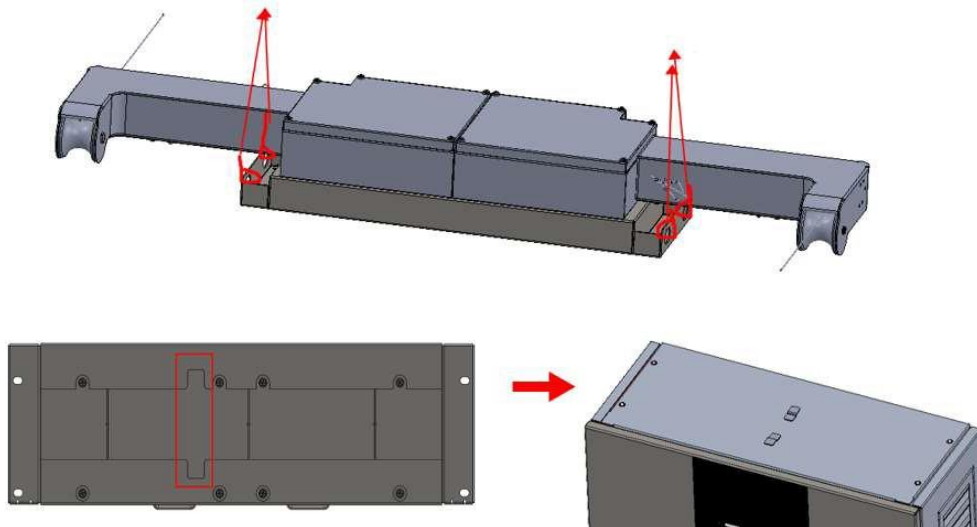

Figure 22 Moving the CMS onto the charger main body
(14) Hoist the CMS, move it onto the top of the charger main body and align the gap of the adapter plate with the clamp plate on top of the charger main body as shown in Figure 22.